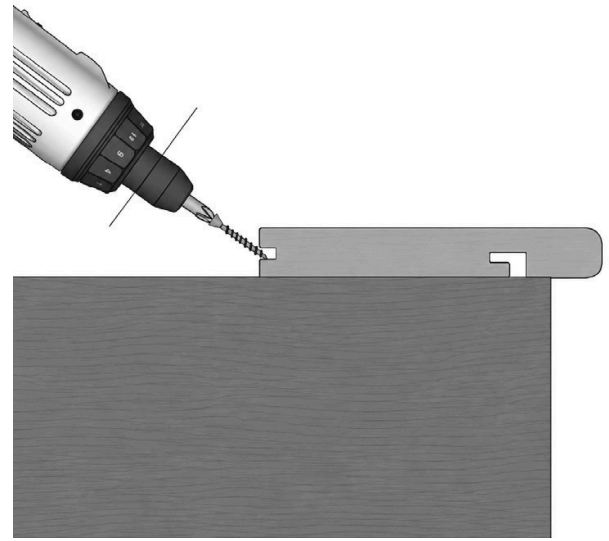

FIG. 22 – EDGE BOARD SCREWED THROUGH THE CLIP GROOVE AT 45°
- 08 With the edge board in place, screw through the hidden-clip groove at a 45° angle, securing it to the joist (fig. 22). Pre-drill pilot holes in the deck boards 2 mm wider than the screw shank; do not over-drive screws into the deck boards, to avoid the material splitting.